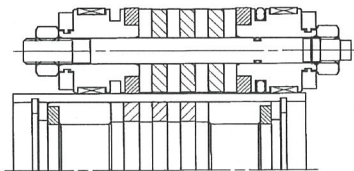
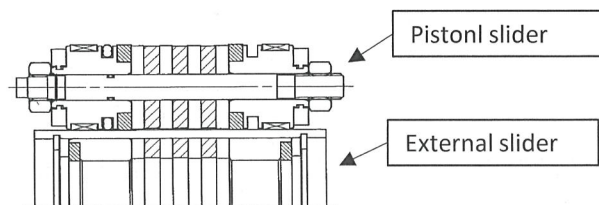

Fig. 16 Incorrect combination
Fig. 17 Correct combination
2) Figure 16 shows the wrong combination. The piston slider is magnetically adsorbed off center of the external slider. In this case, turn the piston slider by 180° to make the correct combination as shown in Fig. 17 and then insert them to the cylinder tube.